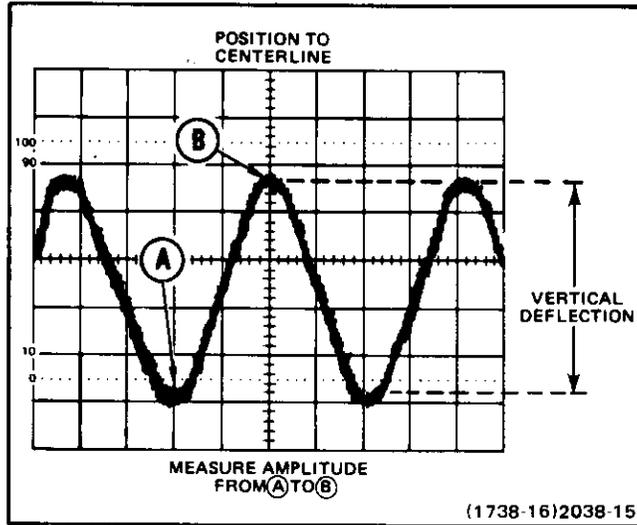

Figure 13. Peak-to-peak waveform voltage.
6. Vertically position the display so that the negative peak of the waveform coincides with one of the horizontal graticule lines (see Figure 13, Point A).
7. Horizontally position the display so that one of the positive peaks coincides with the center vertical graticule line (see Figure 13, Point B).
8. Measure the vertical deflection from peak to peak (see Figure 13, Point A to Point B).
EXAMPLE: The measured peak-to-peak vertical deflection is 4.6 divisions (see Figure 13) with a VOLTS/DIV switch setting of 0.5, using a 10X probe.